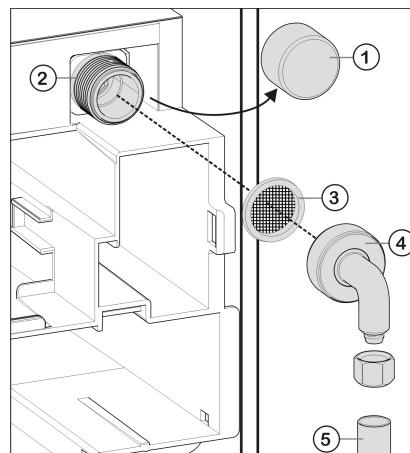

Fig. 31
- Remove the cap *Fig. 31 (1)* from the solenoid valve *Fig. 31 (2)*.
- Ensure that the gasket *Fig. 31 (3)* is inserted in the elbow connection *Fig. 31 (4)* supplied.
- Connect the elbow adapter *Fig. 31 (4)* to the solenoid valve *Fig. 31 (2)* and tighten with an open-ended wrench, for example.
- Connect the domestic water supply *Fig. 31 (5)* (e.g. copper pipe) to the elbow connector *Fig. 31 (4)*. Before fitting into the cabinet: